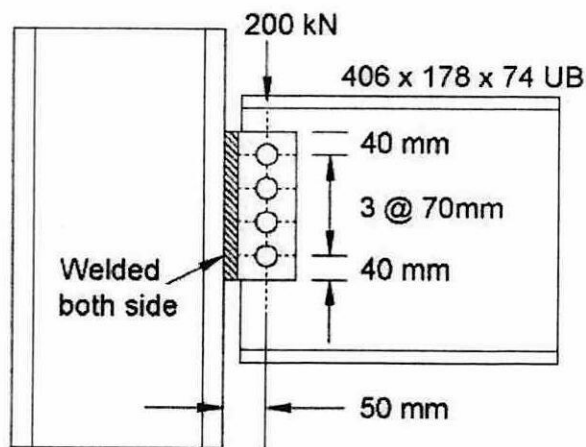

Figure Q3
- Q3** A fin plate connection used to support a loaded beam is shown in **Figure Q3**. The beam, column and the connecting plate are in Grade S275. The connecting plate is 100 x 10 mm thickness. The bolts used are M20 Grade 8.8 and the weld size is 8 mm. From the loading analysis, the reaction at the beam support is 200 kN.